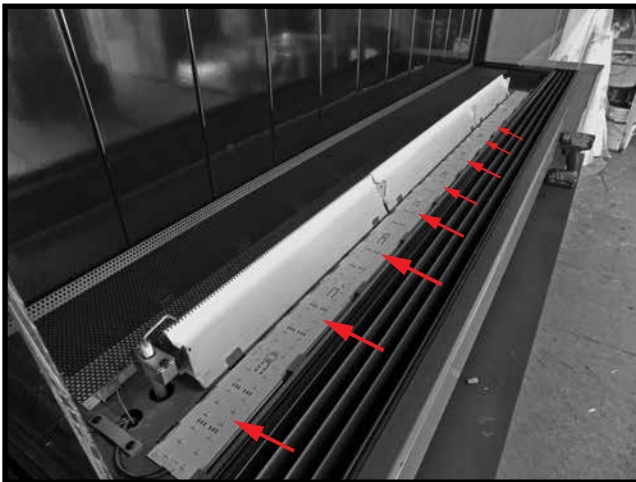
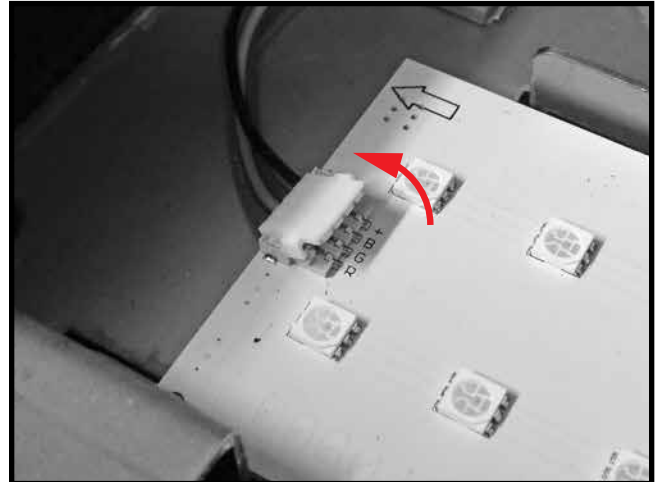

Figure 61: LED individual sections joined together.
Figure 62: LED connector.
There are two rows of LED lights in this fire feature, one row on each side of the burner. Each row of LED lights is made of individual LED sections which can be joined together using bridge connectors to achieve the desired row length (Figure 61). Each row of sections also has its own main electrical connector (Figure 62).
4. Disconnect the main electrical connection located on the left hand side of the fire feature by lifting the connector up as shown in Figure 62.
9. Reconnect the main electrical connector as shown in Figure 62.